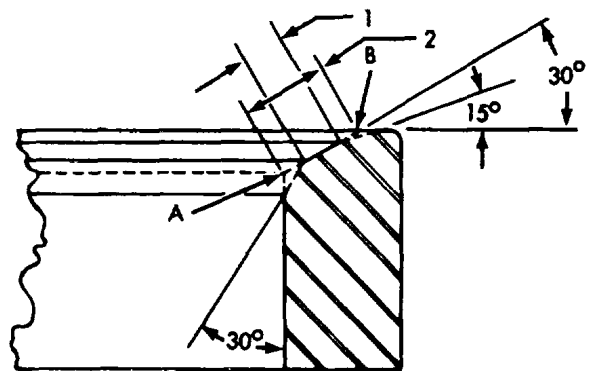

Figure 3-255. Valve seat insert cross-section.
(1) Check for loose valve seat inserts by lightly 3-0 tapping head near inserts. A slight looseness, which can be found only by tapping, when head is cold and covered with film of oil is n-o objectionable.
(2) If valve seat insert is loose enough to bounce or cannot be reground, mark for replacement.
(3) If seat area width (2, fig. 3-255) exceeds 0.125 in. at any point (see A to B), and cannot be narrowed (1) sufficiently it is unlikely that seat can be successfully reground.